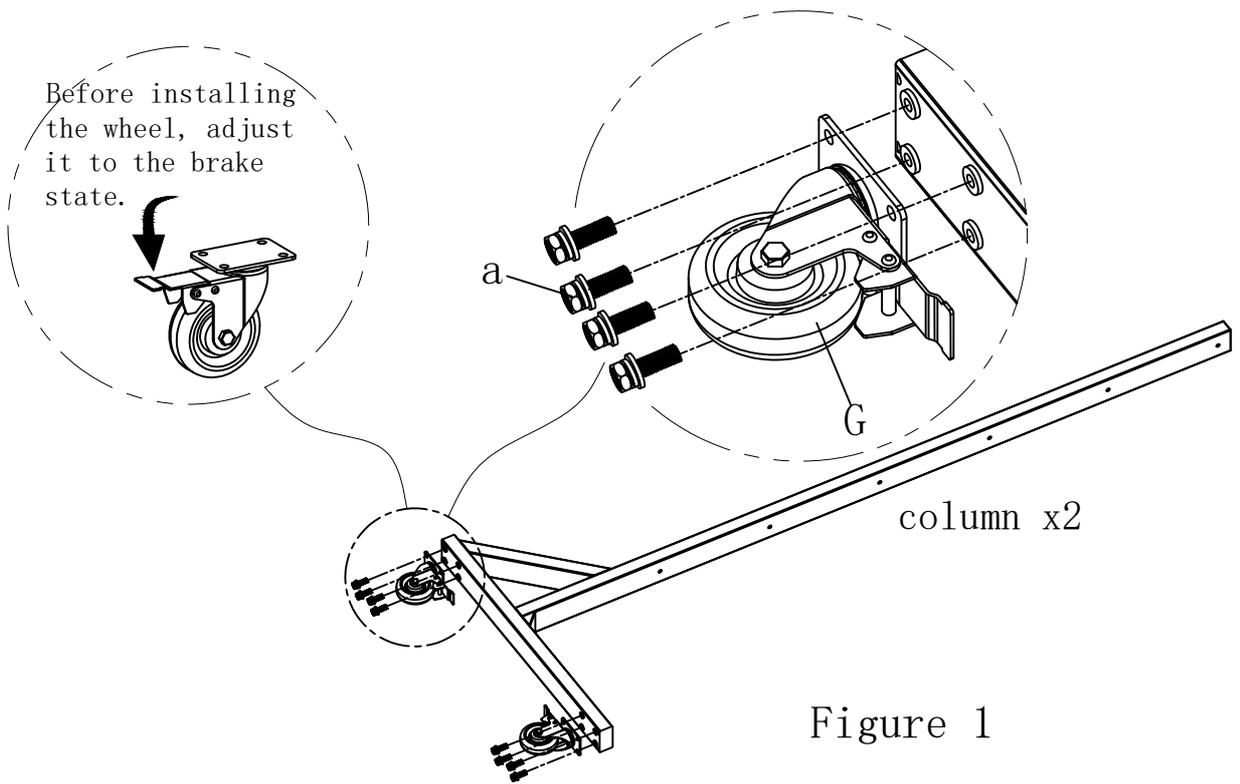

Figure 1
Step 1 : Adjust the wheels to the braking position and use screw (a) to lock the wheels onto the left and right pillars. (As shown in Figure 1).